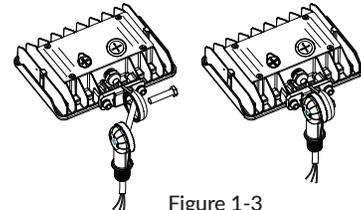

Figure 1-3
- Pass the cable through **Knuckle Bracket Part B** and assemble the two parts together with the **Locking Bolt**. (Figure 1-3)